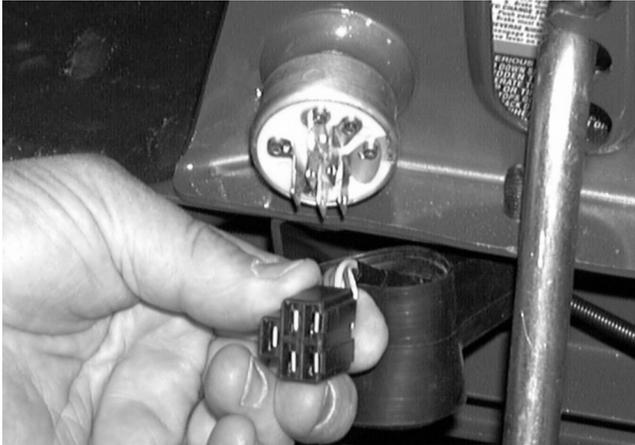

FIGURE 5.
- 8). Locate the ignition switch and remove the wiring harness connector. See figure 5.